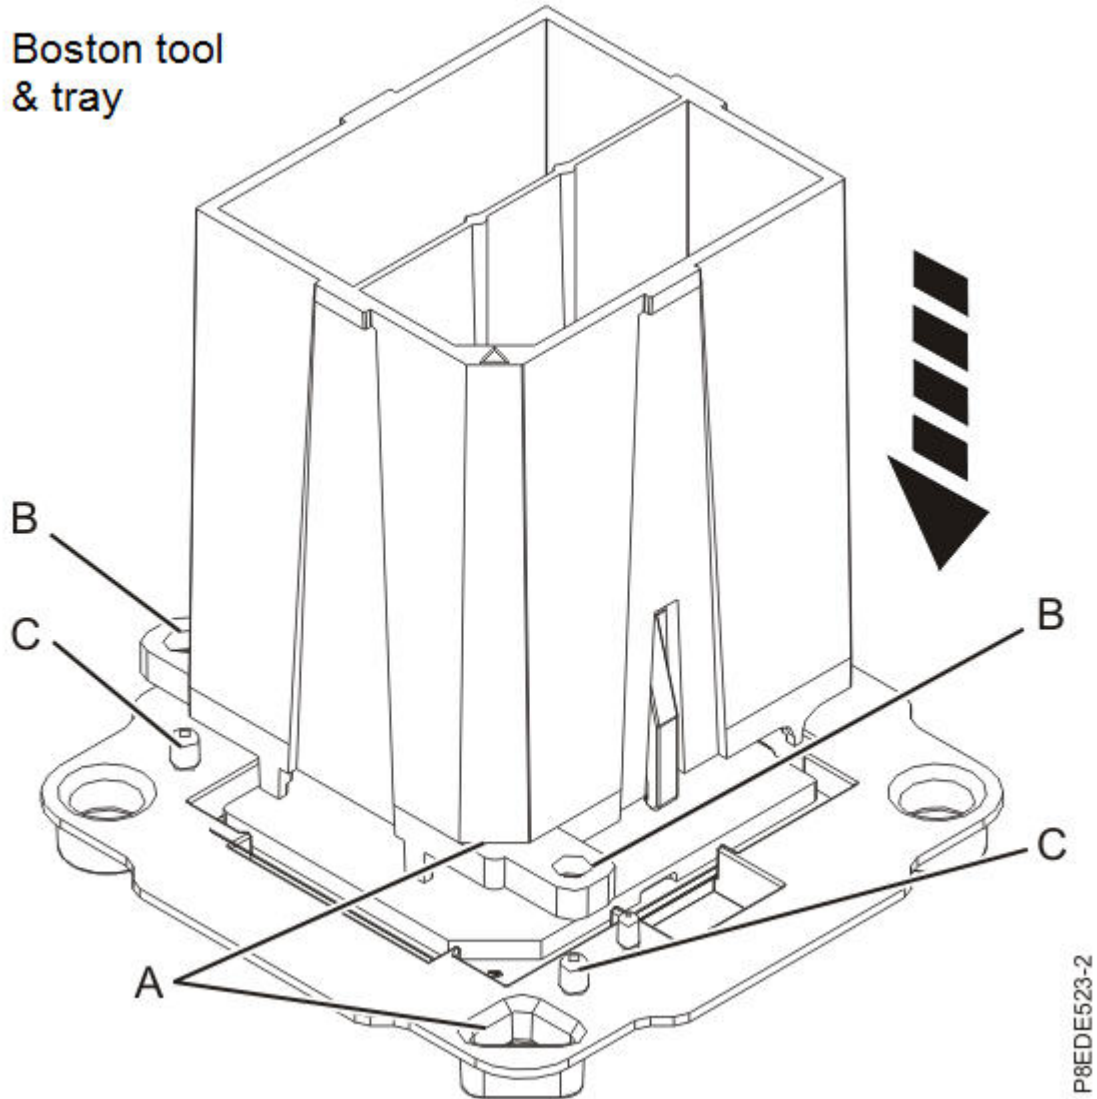

Figure 71. Aligning the removal tool
3. Remove the replacement processor module from the shipping tray. Align the beveled corner (A) of the tool over the beveled corner of the module as shown in Figure 71 on page 62.